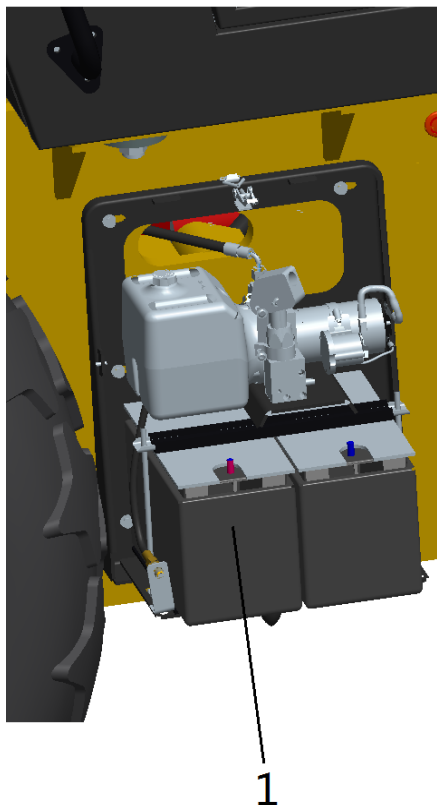

Figure 3-26
3.4.5.6 Battery –Check condition (Figure 3-26)